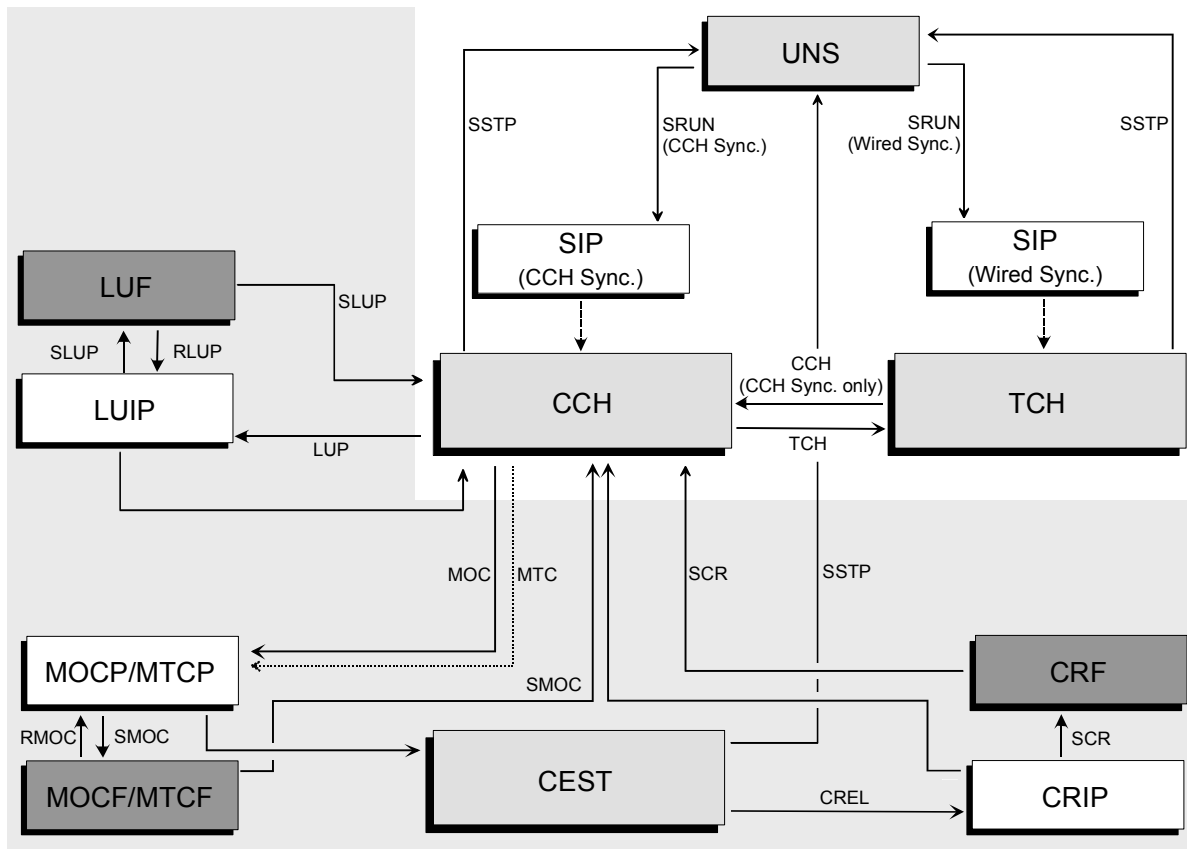

Fig. 6-1 Signalling states of the CMU
**Note:** The CEST state and all other states in the shaded area in Fig. 6-1 are available with option CMU-K39, MOC/MTC only.